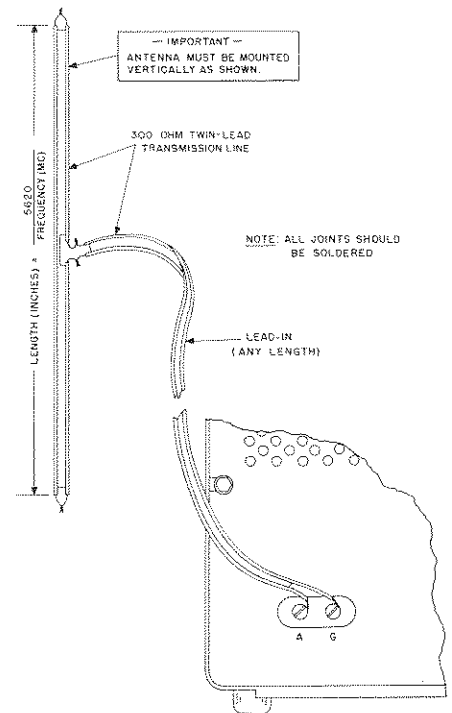

Fig. 2. Vertical Doublet Antenna
For top performance, especially when receiving weak distant signals, the use of a vertical doublet antenna is recommended. Such an antenna may be readily constructed from standard 300-ohm twin-lead TV transmission line as shown in Fig. 2 and may be mounted either indoors or outdoors. For optimum performance, the doublet antenna should be cut to the proper length for the most used frequency or band of frequencies and erected as high as possible. The overall length of the doublet antenna is determined by the following formula:
**IMPORTANT:** All transmissions in the frequency range of the receiver are vertically polarized and for maximum signal pickup, the receiving antenna should also be similarly polarized. This is accomplished by erecting the antenna so that its length is vertical as shown in Fig. 2.